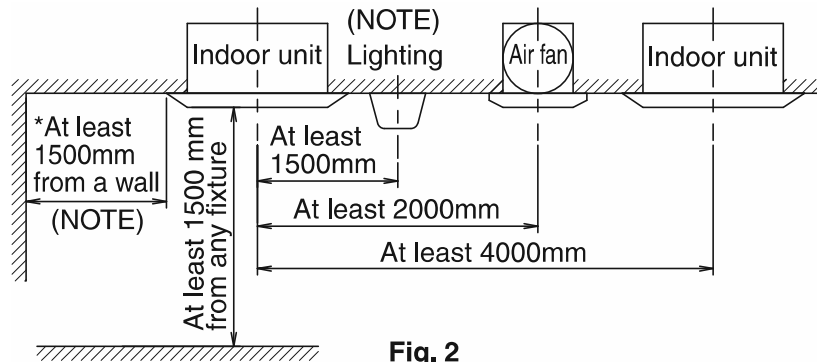

Fig. 2
- Any vents, light fixtures, or other appliances which may disturb the airflow might cause the top side to become dirty if located too nearby, so follow **Fig. 2** when installing.
(2) Ceiling height